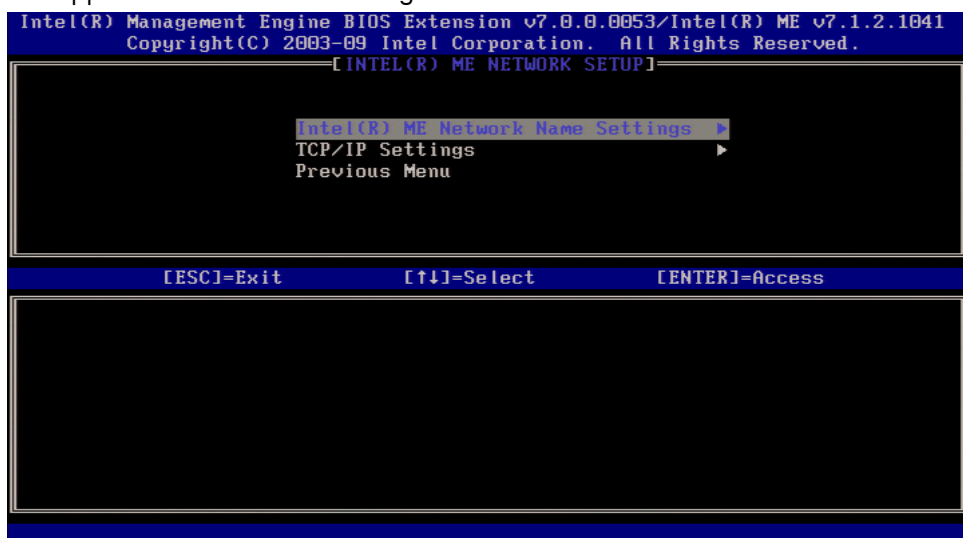

Figure 13. Intel AMT Network Setup Screen
14. At the previous menu (step 13) select Network Setup. The Network Setup menu appears as shown below in Figure 13.
15. At the previous menu (Figure 13), select **TCP/IP Settings** and view the AMT TCP/IP Settings screen (Figure 14). AMT 7.1 supports IPV4 and IPV6 interface. Follow steps 15a-15f to configure for IPV4 and 15g-15h for IPV6.